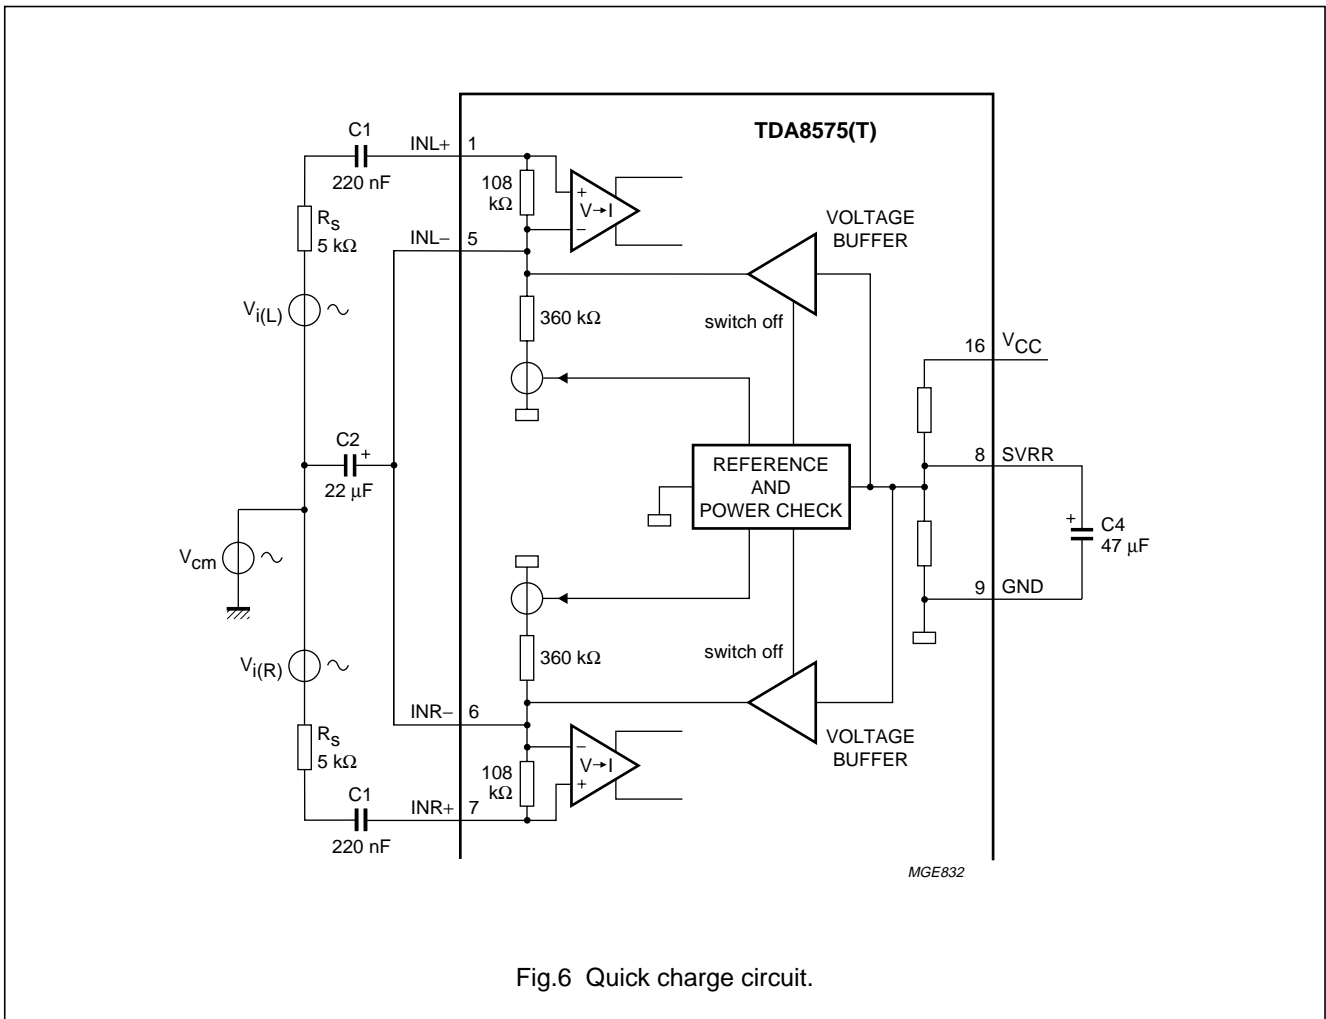

Fig.6 Quick charge circuit.
In Fig.6 the preferred input capacitor values are shown. If the capacitor  $C2 = 22 \mu F$  connected to the IN- inputs had to be charged by the  $0.5V_{CC}$  voltage source a charge time of  $5\tau = 5 \times \frac{360 \text{ k}\Omega}{2} \times 22 \mu F = 20 \text{ s}$  would be required.
This is inconvenient for most applications and therefore the TDA8575(T) is equipped with a quick charge circuit. On power-on the quick charge circuit charges the capacitor C2 connected to the IN- pins. The quick charge circuit consists of a voltage buffer and a control circuit (referred to as 'reference and power check' in Fig.6) that monitors the supply voltage  $V_{CC}$ . If the supply voltage rises more than  $\approx 2 \text{ V}$  the voltage buffer is switched on. After charging C2 the voltage buffer is switched off. The charge time of C2 will equal the charge time of C4, the SVRR capacitor.